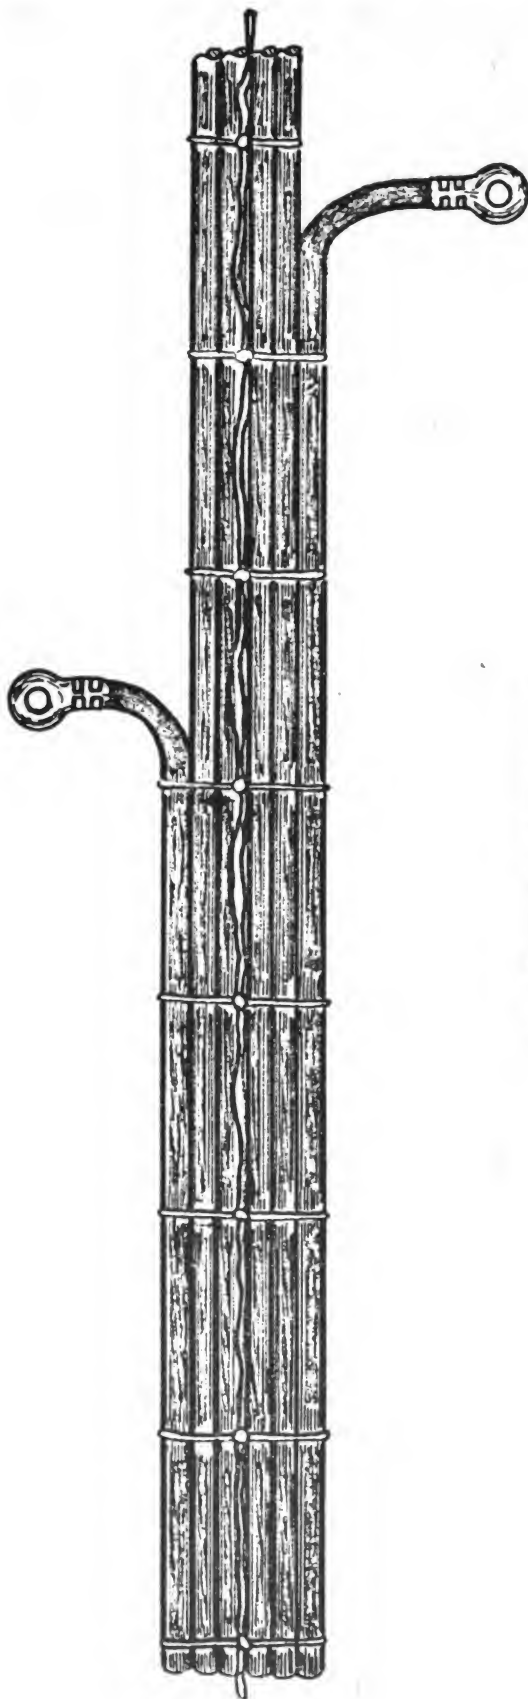

FIGURE 30.—Cabled conductors.
**22. Cabling.**—It is common practice to bunch certain insulated wires into a neat bundle, fastening them by looping cord about the bundle at frequent intervals. Figure 30 shows a cable of this type. The use of various colored wires facilitate tracing circuits wired by this method. Many times this type of wiring is used only for the low frequency and power circuits, bus bar being used for the radio frequency portion of the circuit. This combination makes a very neat yet efficient method of set wiring.